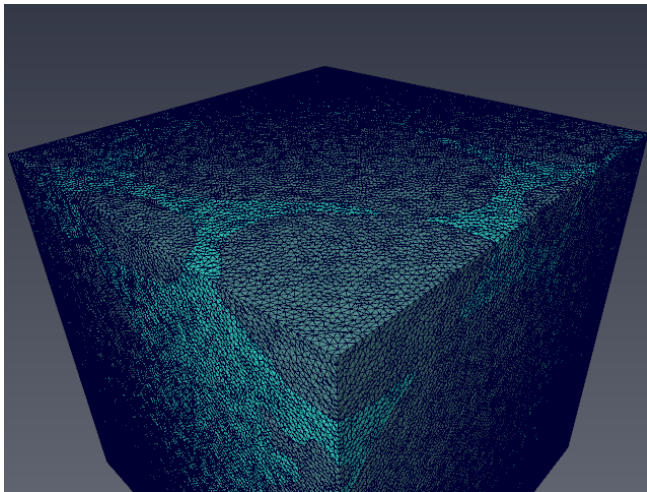

Figure 5.15: Simplified surface.
- Press *Simplify now* (see Figure 5.15).